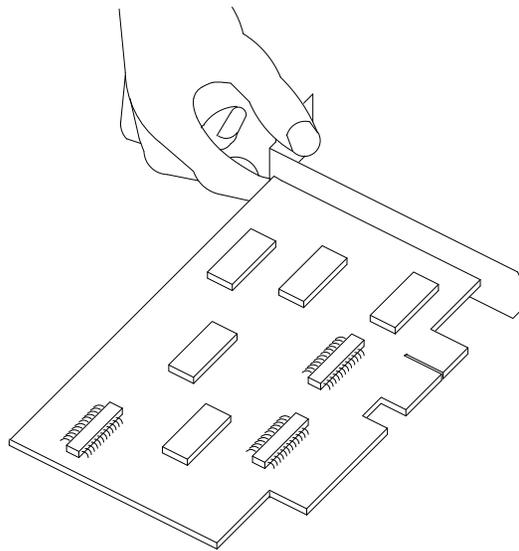
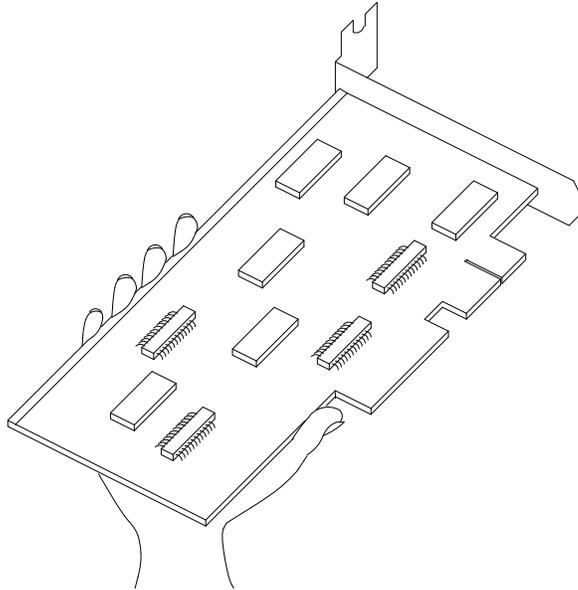

Figure 2-1. How to Hold a Small Circuit Card
Figure 2-2. How to Hold a Large Circuit Card
- Handle a circuit card by the faceplate or side edges only. *Do not touch* components, leads, or connector areas (gold finger pins). See Figure 2-1 and Figure 2-2 for examples of how to hold small and large circuit cards, respectively.